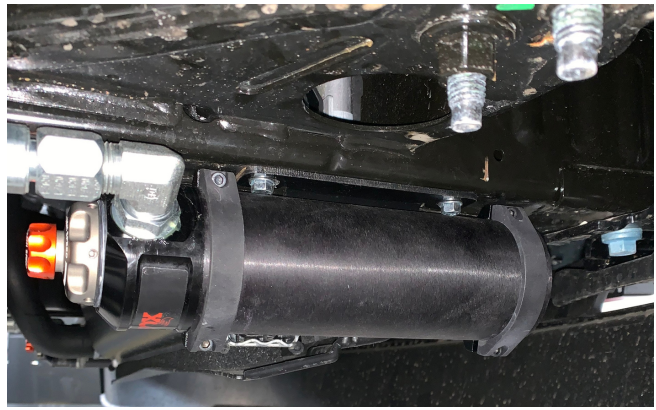

Fig. 13: Passenger side bracket shown
24. Torque the reservoir clamp screws to 19 in-lb (2.1 N·m). (Fig. 13)